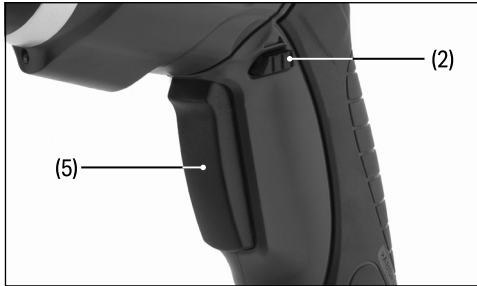

Fig. 3
7.1 Forward and Reverse Rotational Drive (Fig.3)